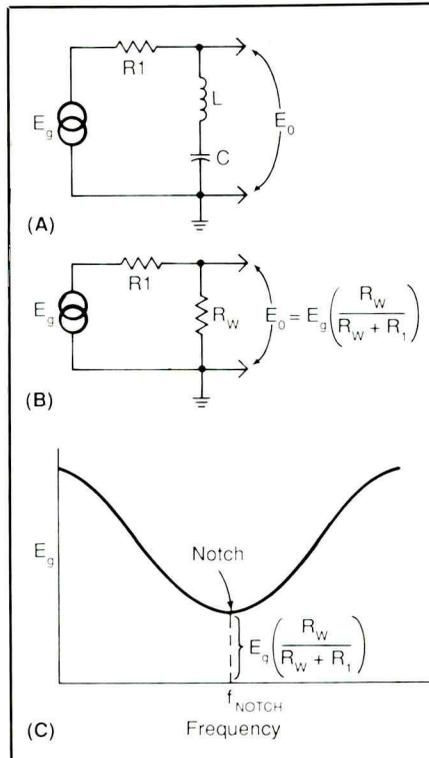

Fig. 1. A conventional series resonant circuit and its equivalent circuits.
You can apply the same principle to resonant LC filters that operate at much greater (r-f) frequencies than do most op-amp notch filters. A simple series resonant filter like that shown schematically in Fig. 1(A) exhibits a low output voltage,  $E_o$ , at the resonant frequency:  $f_{\text{notch}} = 1/(2\pi\sqrt{LC})$ . At resonance, notch voltage
is *not* zero, due to the effective wire resistance,  $R_w$ , in the inductor and other coil and capacitor losses. Output voltage  $E_o$  is the result of voltage-division action of  $R1$  and  $R2$ . Therefore,  $E_g$  is the input signal applied to the filter, as illustrated in Fig. 1(B).
Note in the Fig. 1 filter that capacitor and inductor reactances cancel each other out at resonance, leaving only  $R_w$  effectively in the circuit. Below resonance, capacitive reactance becomes much larger than  $R_w$  and the divider fraction in the formula in
Fig. 1(C) approaches 1.0. This makes  $E_o$  nearly equal to the input. Similarly, at frequencies beyond resonance, inductive reactance increases and  $E_o$  increases.
In a series resonant circuit like that shown in Fig. 1(A), the current that flows at resonance must pass through coupling resistor  $R1$ , as well as the source of voltage, which itself has some internal resistance. These addi-